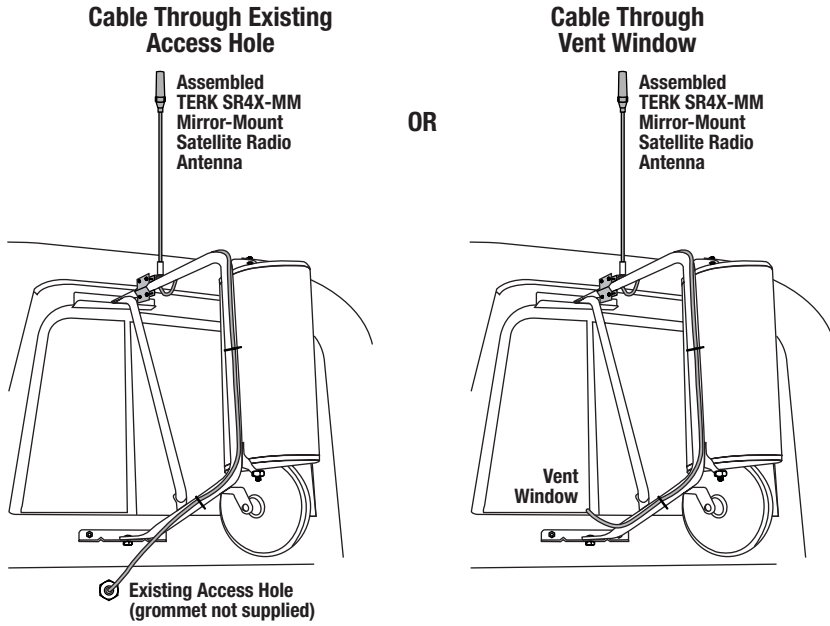

Figure 4. Examples of an installed TERK SR4X-MM Mirror-Mount Antenna.
3. Route the cables through an existing access hole or vent window (see Figure 4 on the next page) to the back of the XM receiver.